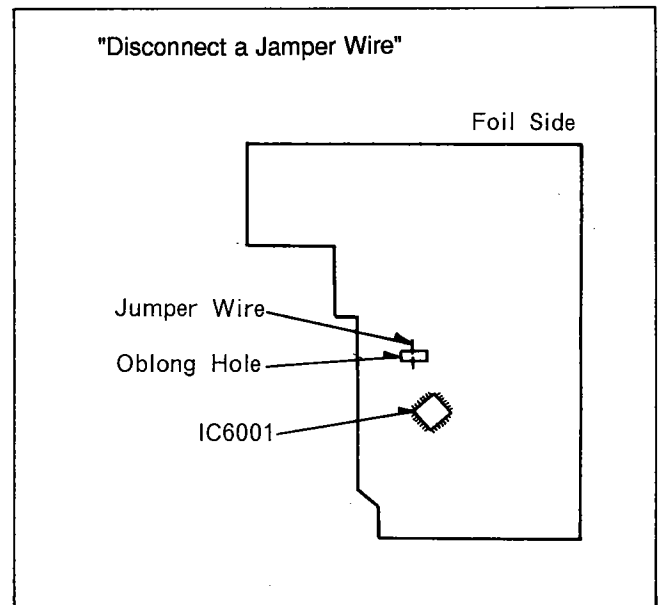

Figure E5
2. Connect a cut jumper wire as shown in Figure E5.